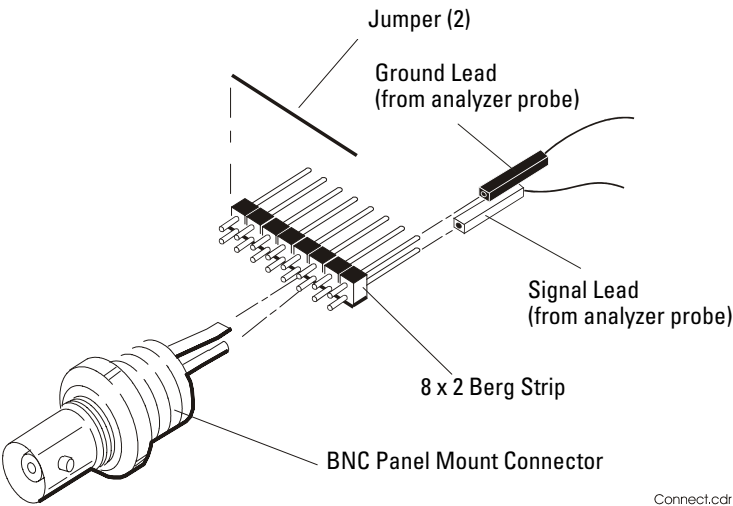

Figure 1 Constructing the 8-by-2 Connector
- 2 On one side of the Berg strip, solder a jumper wire to all of the pins (shown in Figure 1 on page 28).